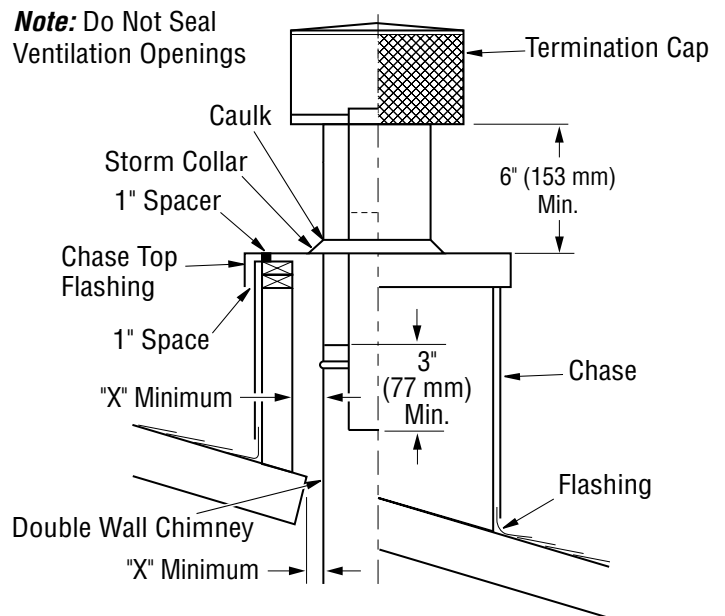

Figure 29 - Chase Installation
5. Place termination cap over opening. Slip stainless steel inner pipe of termination into inner stainless steel chimney section (see Figure 28). Place galvanized steel over chimney outlet (see Figure 29).
6. Attach storm collar where chimney pierces opening in flashing. Caulk where storm collar touches outer chimney pipe (see Figure 29).